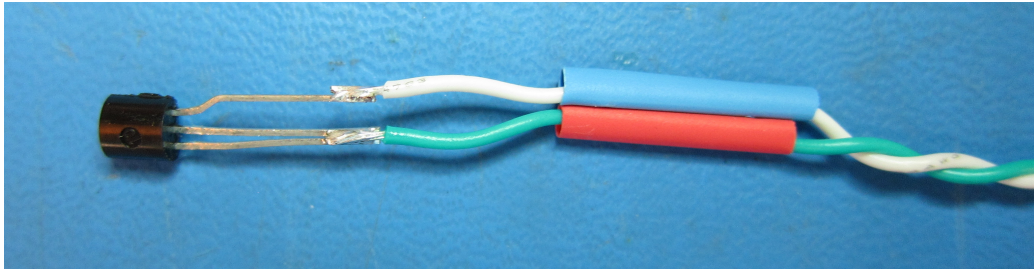

Figure 2: Temperature sensor after cable soldering.
7. Solder green (or black) wire to the middle and left pins, see Fig. 2.